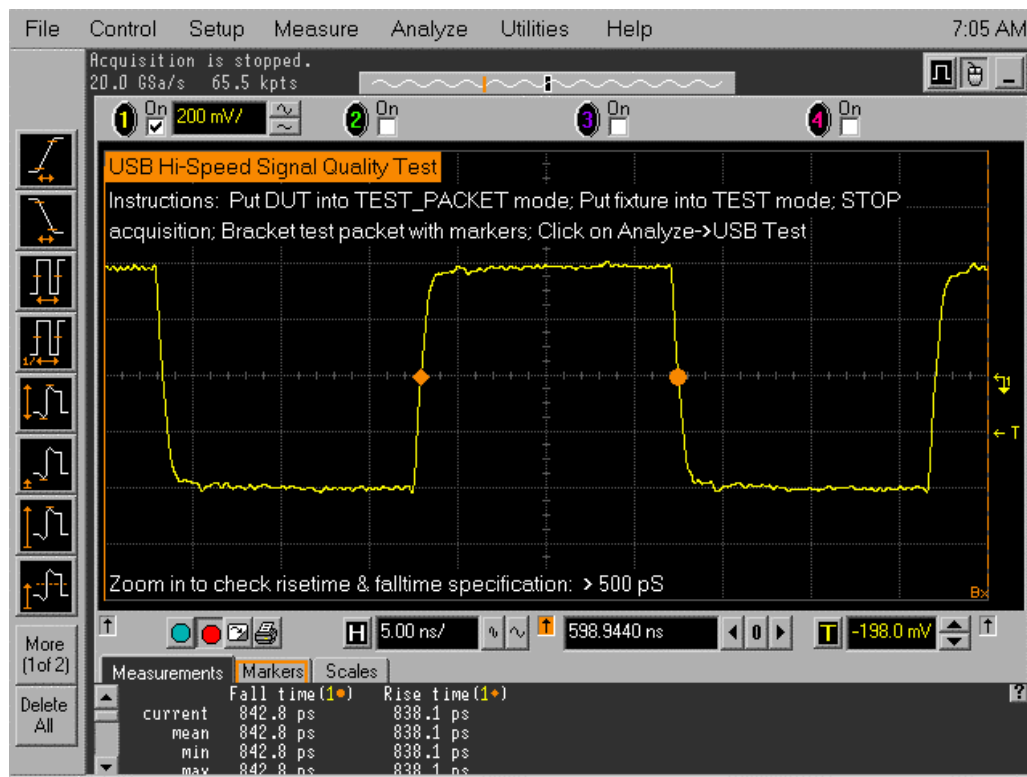

Figure 9: Rise and fall time measurement
20. Using the Horizontal knob on the oscilloscope, zoom in and check that the rise and fall times are > 500us, as shown in Figure 9.